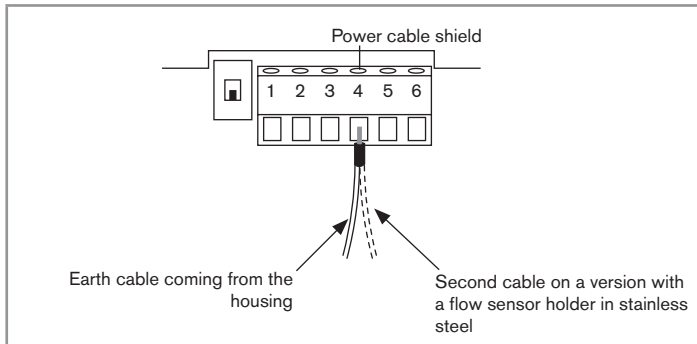

Fig. 15: Earth connection terminal
- In the housing, connect the power supply cable shield to terminal no. 4 of the electronic board connector (Fig. 15). On a version with stainless steel flow sensor, a second cable is coming from the sensor.